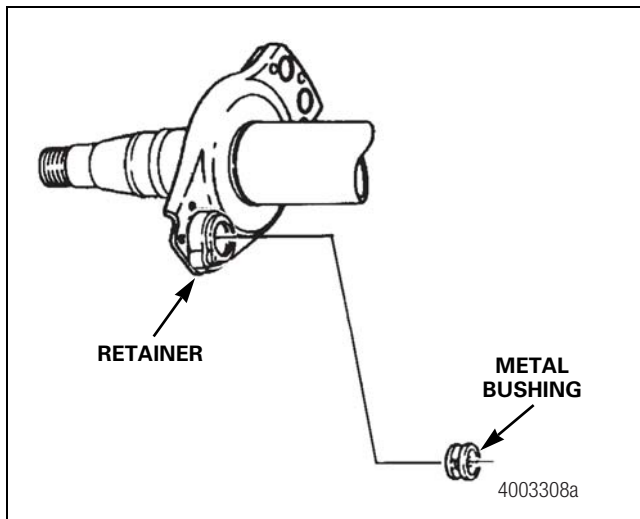

Figure 12.7
- A metal sleeve bushing can be installed onto all three spider models. Figure 12.7.